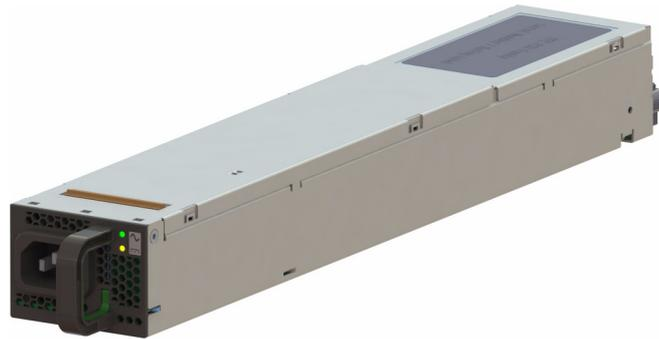

Figure 1-61 Power Supply Module
2. Locate the failed unit in the specified chassis: its amber service LED should be lit, indicating a fault (see Figure 1-61).